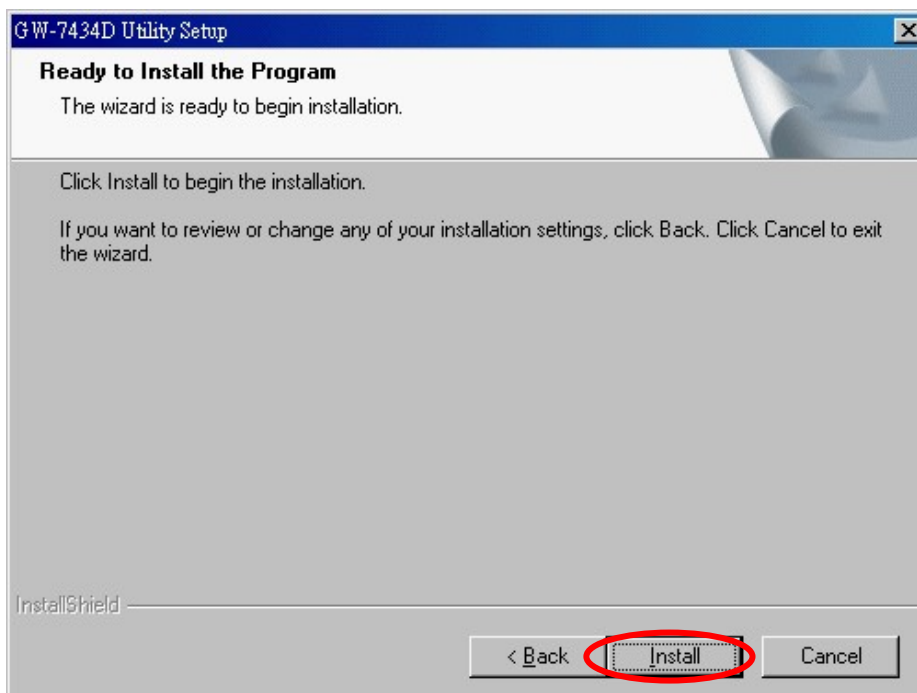

Figure 5-4: “Ready to Install the Program” dialog
Step 5: Click “Next” button and a “Ready to Install the Program” window will pop up to prompt user that the wizard is ready to begin the installation See figure 5-4.